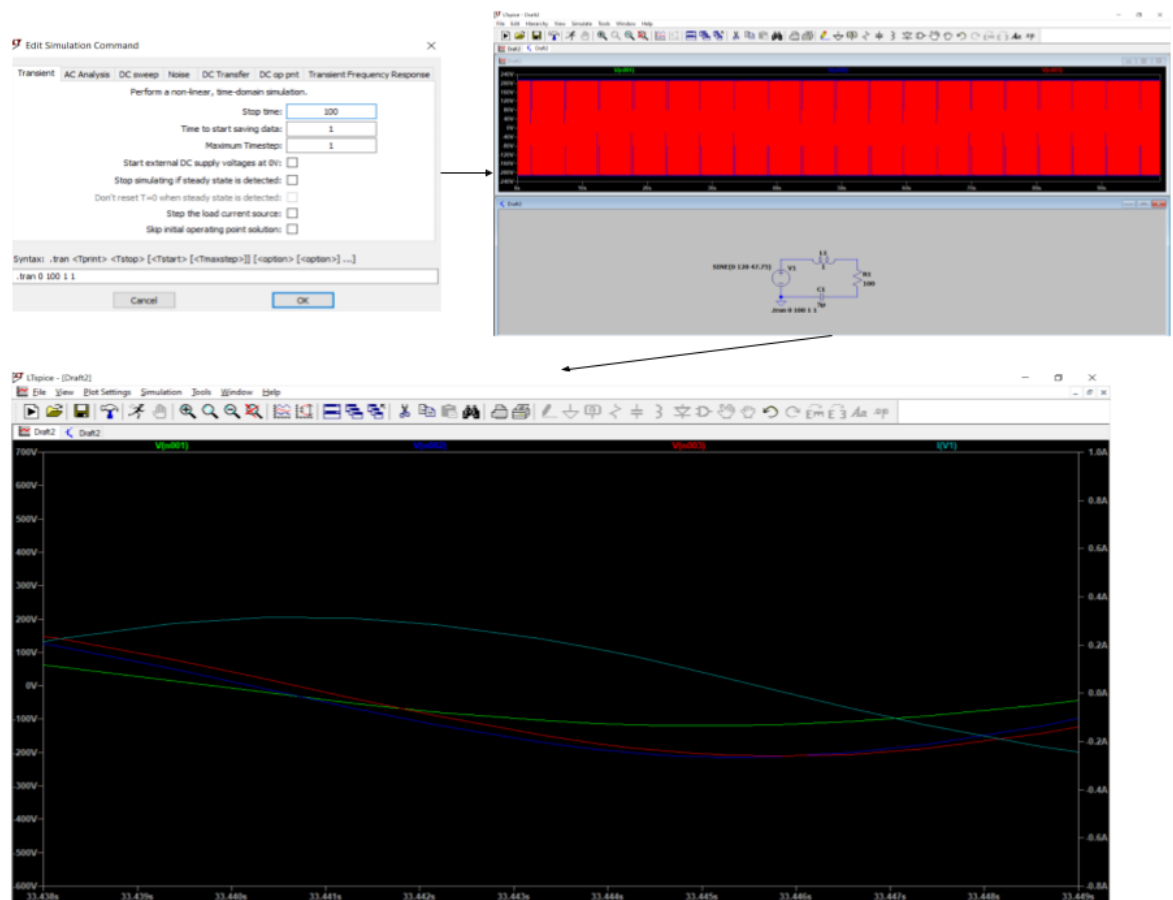

Figure 7: The process for simulating an RLC circuit using LTSpice software.
7. Simulate the circuit. Once the circuit schematic is built, click on the 'simulate' button at the top right of the screen and this will open up a new window to edit the simulation commands. Click on the 'Transient' tab and enter a 'stop time', 'time to start saving data', and a 'maximum timestep'. Once the simulation commands have been set, click on the 'run' button under the simulate tab at the top right of the screen. The simulation results will appear at the top of the screen above the circuit schematic [1]. Please see Figure 7 for more information.